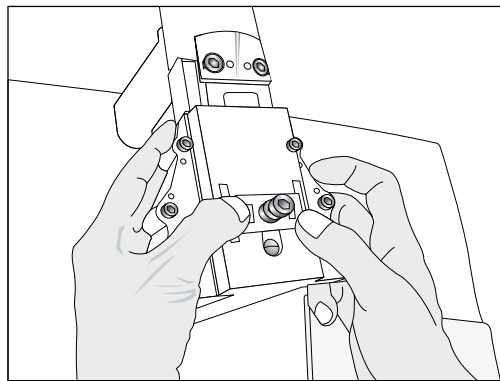

Figure 8
2. Push the body up and adjust to the desired depth. (See Figure 8)